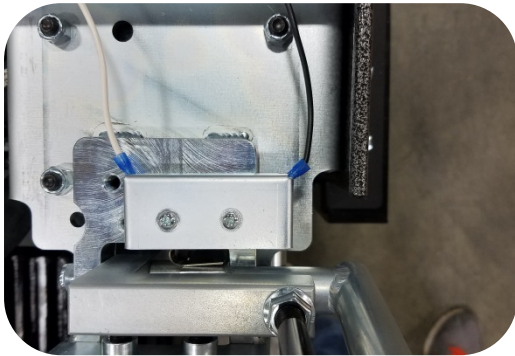

Fig. 5
5. Unplug backup beeper wires (blue connectors) (Figure 5).